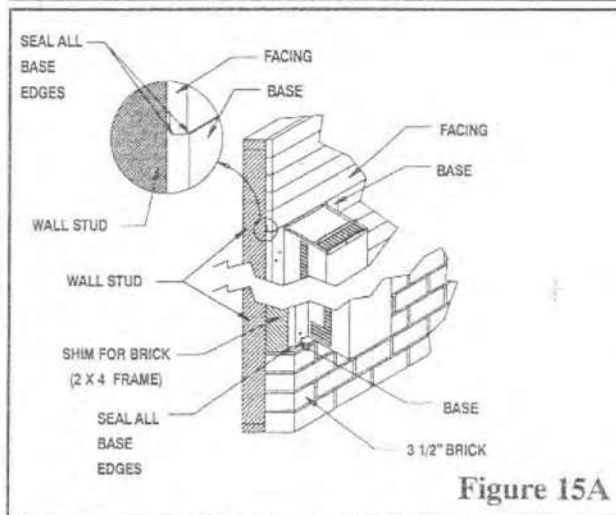

Figure 15A
- 7.) Seal the junction between the termination base, siding and the outside corners of the termination base with caulking material. See figure 15A.